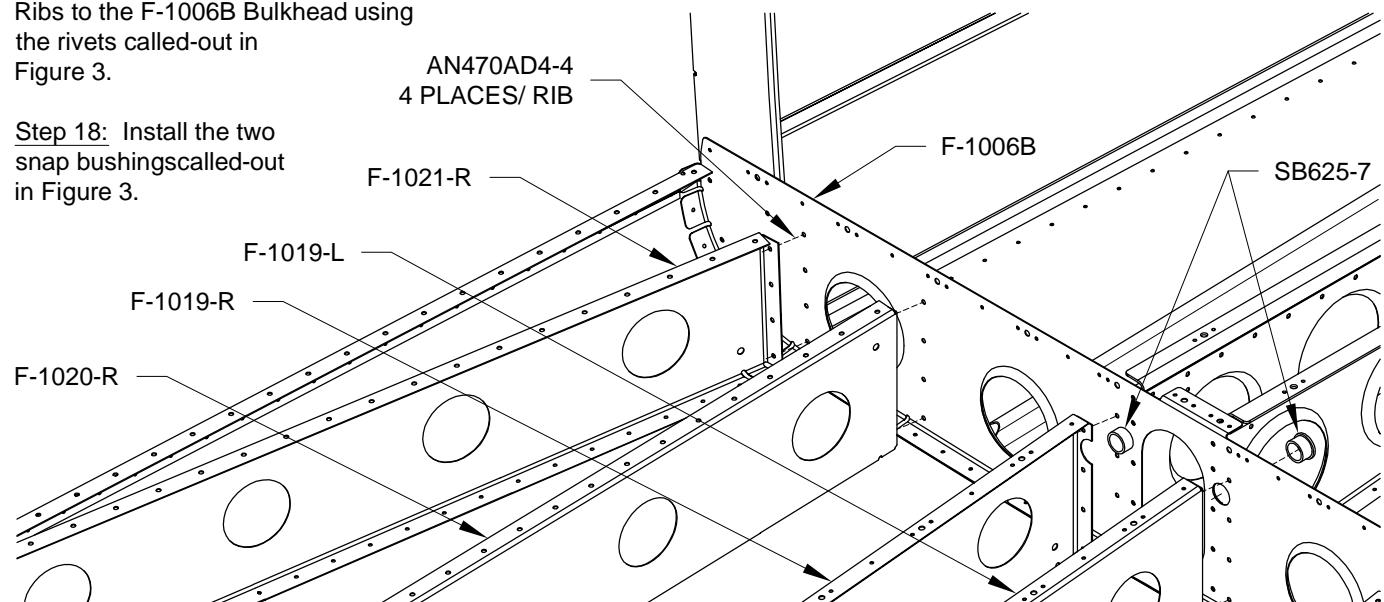

FIGURE 3: RIVETING THE BAGGAGE RIBS
Step 17: Rivet the F-1019, -1020, and -1021 Baggage Ribs to the F-1006B Bulkhead using the rivets called-out in Figure 3.
Step 18: Install the two snap bushings called-out in Figure 3.